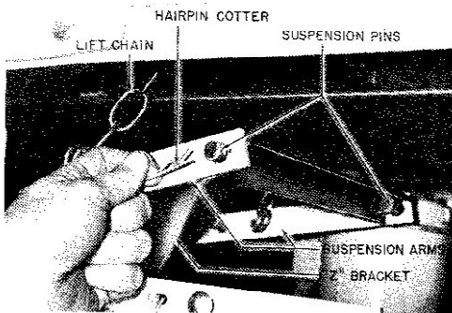

FIG. 16. Rear Suspension Assembly
5. Secure the ends of the suspension pins to the "Z" bracket with hairpin cotters. (See Fig. 16).